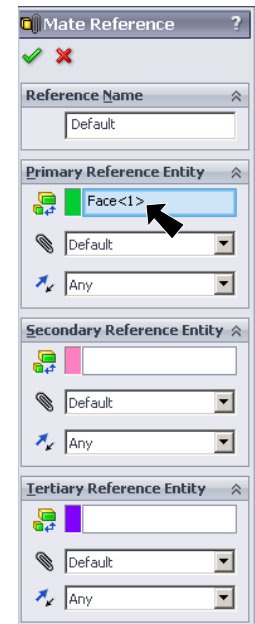

Fig. 21
Step 4. In the Mate Reference Property Manager click OK , Fig. 21.